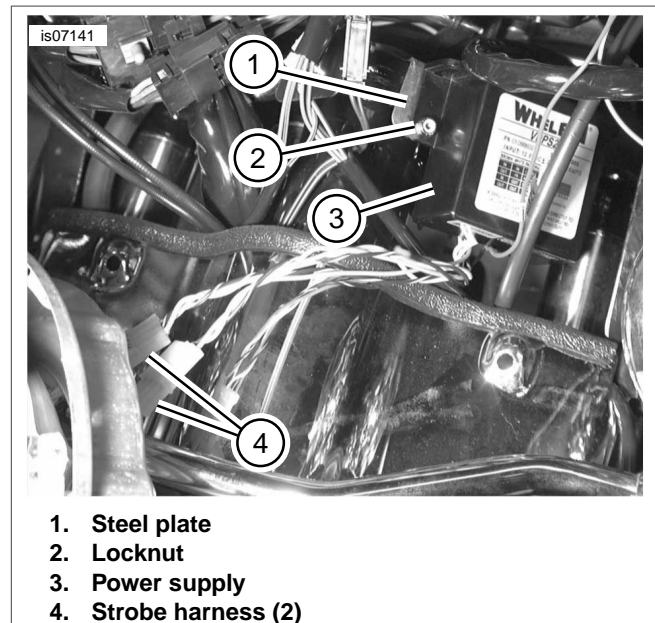
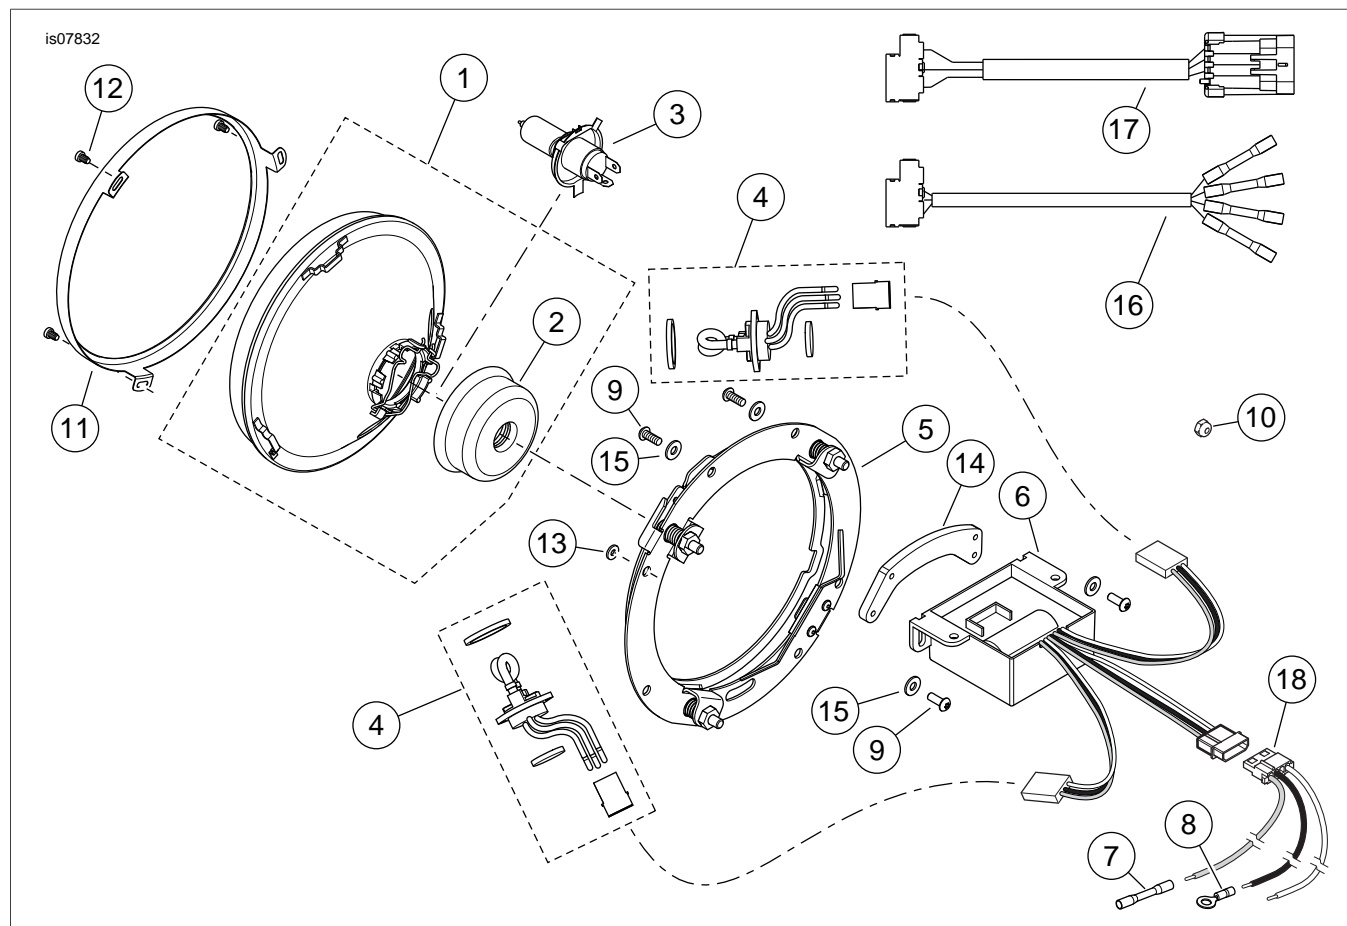

Figure 11. Mount the Power Supply (2013- Earlier FLHTP Models)
Figure 15. Service Parts, Emergency Headlamp and Strobe Kit
22. See Figure 15. Install the headlamp (1) to the mounting ring (5) with the retaining ring (11) and three screws (12).
2. Locate the steel plate (2) to which the power supply mounts. Remove the black plastic fir tree-style wire retainer from the hole (3) in the plate.
3. See Figure 15. Get the power supply (6), screw (9) and locknut (10) from the kit. Position the power supply over the steel plate as shown in Figure 11. Align the mounting hole on the left side of the power supply with the hole in the steel plate.
4. Install the screw from the opposite side (under the fairing cap), through the steel plate (1) and power supply (3) mount. Install the locknut (2), but do not fully tighten now.
5. Route the two strobe power supply harnesses (4), the red power wire and the black ground wire away from the power supply and free of other wiring in the fairing.
6. See the service manual to install and crimp the ring terminal (Figure 15, Item 7) from the kit to the end of the black power supply ground wire.
11. See Figure 15. Obtain the FLHTP headlamp jumper harness (17) from the kit. Plug the harness into the vehicle headlamp connector [C38B].
14. Get the strobing headlamp assembly (1) from the kit. Reach in through the headlamp opening and retrieve the headlamp connector and the two strobe harnesses coming from the power supply.